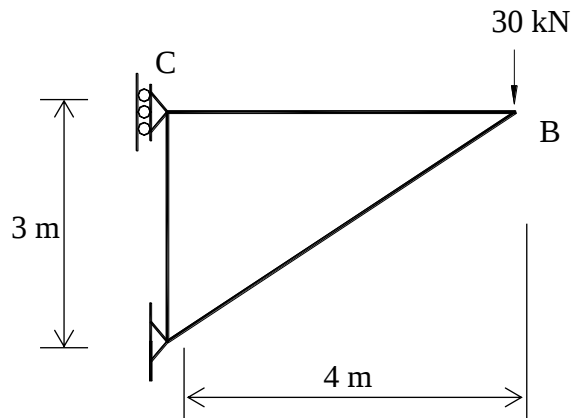

Figure 4(a) / Rajah 4(a)
- CLO2 (a) Calculate the magnitude and types of forces in truss members in Figure 4(a) using the method of joints.